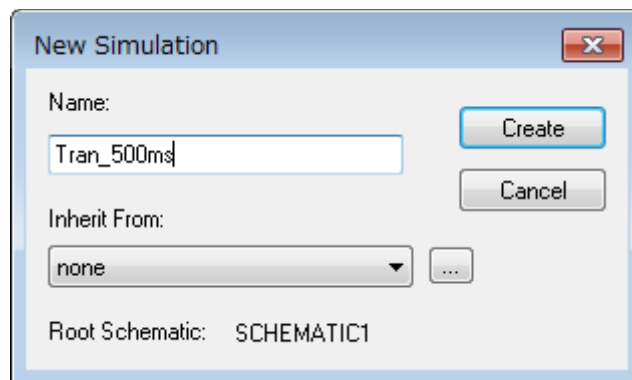

Figure 5.2 New Simulation dialog box
1. From the menu bar of OrCAD Capture, select **PSpice - New Simulation Profile**. Then, the New Simulation dialog box shown in Figure 5.2 appears. Enter an arbitrary profile name and click **Create**.